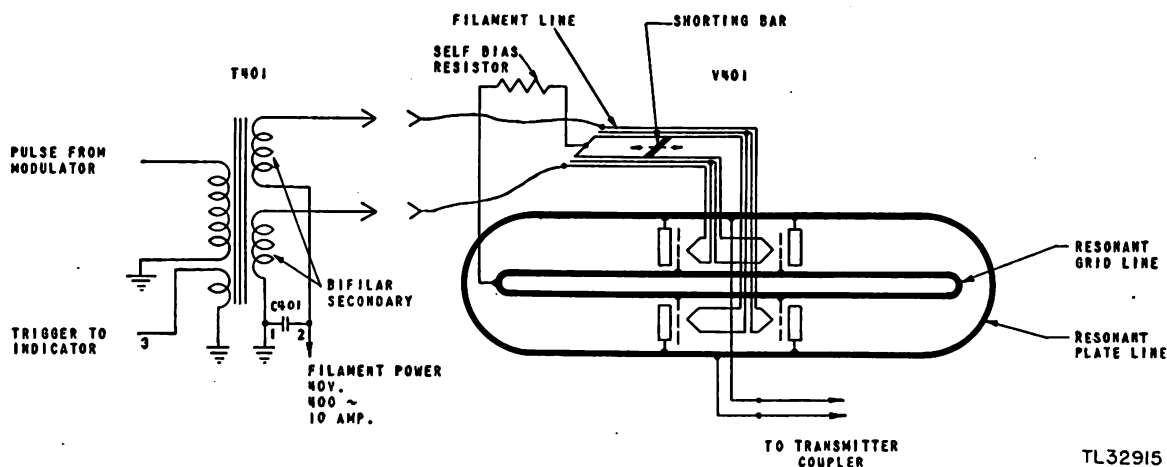

Figure 16. Transmitter functional schematic.
d. Pulse Transformer (fig. 16). The pulse transformer is located in the sealed oil compartment of the modulator unit. It is of the bifilar (twin winding secondary) type and is capable of passing high-frequency pulses of 1.5 microseconds duration. This 1 to 3 step-up transformer receives a positive, 8,000-volt pulse on the primary from the discharge of the pulse-forming network. The output from the secondary is a 24,000-volt negative pulse applied to the filament and plate of the transmitting tube.